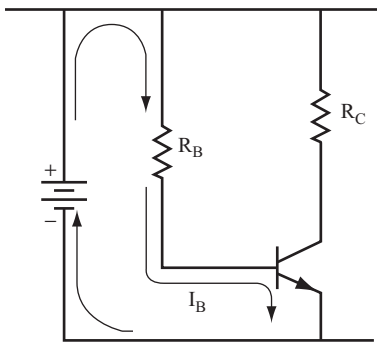

FIGURE 3.17
**13** Consider the circuit shown in Figure 3.17. It uses only one battery to supply voltage to both the base and the collector portions of the circuit. The path of the base current is shown in the diagram.
When base current flows in the circuit shown in Figure 3.17, what other current can flow, and which components will it flow through? \_\_\_\_\_
- A. See Figure 3.17 and Figure 3.18.